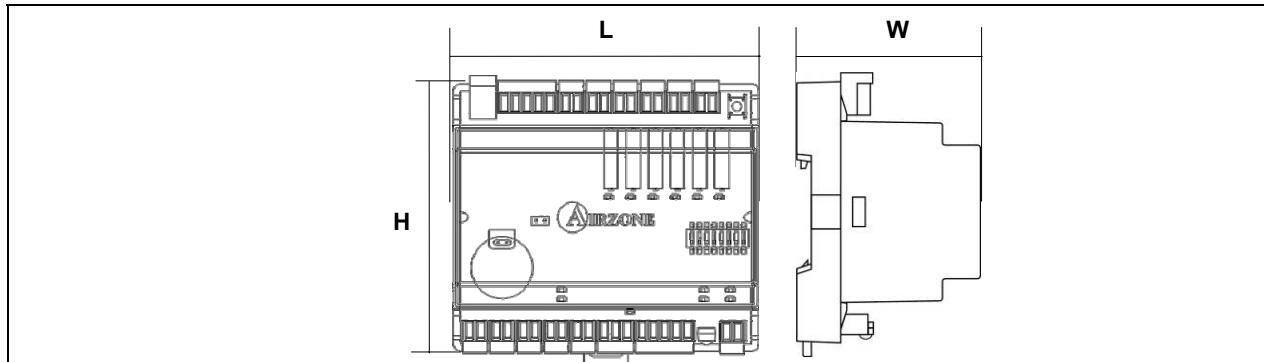

Fig. 2 – Airzone Controller Dimensions (Refer to table in Section 5.4.)
- Do not locate the thermostat over sources of heat (Fig. 2).